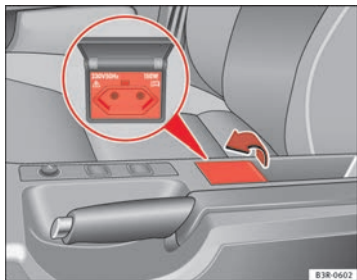

Fig. 137 Centre console:
- Lift the cover to open ⇒ fig. 137.